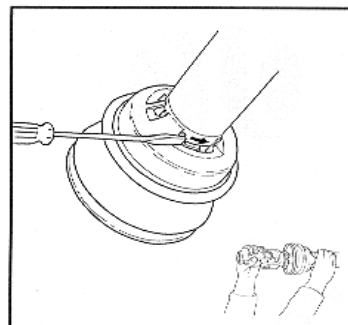

Figure 14-6: Turning Bearing
3. Turn the bearing in the direction as indicated in Figure 14-6. Then slide guard off the bearing.